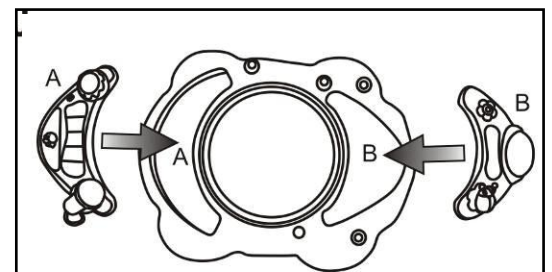

Figure 11
- Insert and snap the toy trays into upper tray at designated cavities as per **Figure 11**.